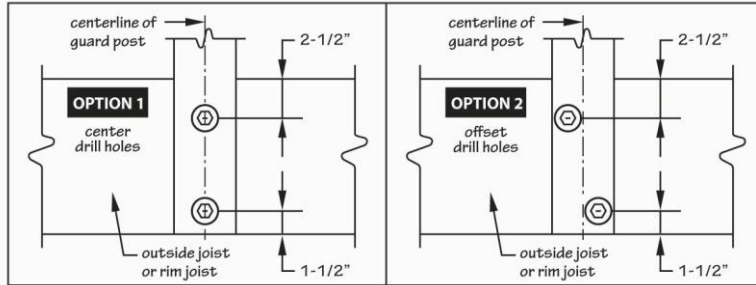

Fig 7
Fascia posts are usually shipped without the mounting holes pre-drilled to allow use in a variety of configurations. Mounting holes must be drilled whose size and location will vary depending on the mounting type selected. See Fig 7 & 8 for typical drilled hole detail.
- 3) Depending on the mounting hardware chosen, drill (2) appropriately sized holes through the base of each post. Use the following chart (Fig 7 & 8)